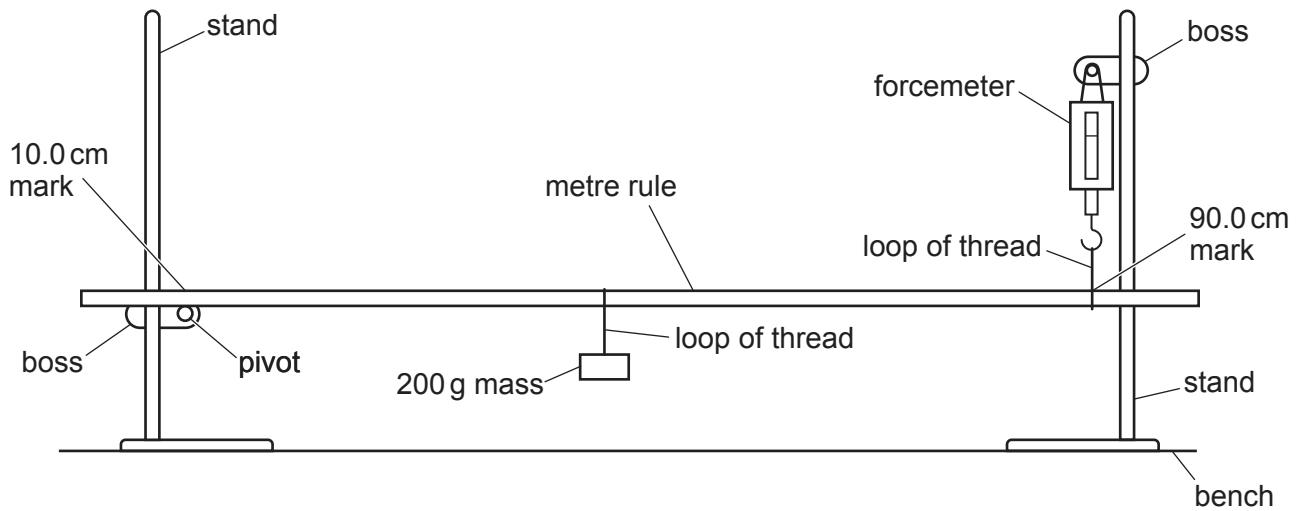

Fig. 1.1
4. The apparatus must be set up for the candidates as shown in Fig. 1.1, with the metre rule suspended with its scale facing upwards. The metre rule must rest on the pivot at the 10.0 cm mark and be suspended from the forcemeter at the 90.0 cm mark. When the 200g mass is suspended at the 70.0 cm mark, the metre rule must be able to be horizontal and the mass must be clear of the bench. The 200g mass must be placed near the centre of the metre rule. The forcemeter and loop of thread supporting the metre rule must be vertical.
Check that the apparatus is arranged as shown in Fig. 1.1 with the 200 g mass near the centre of the metre rule.